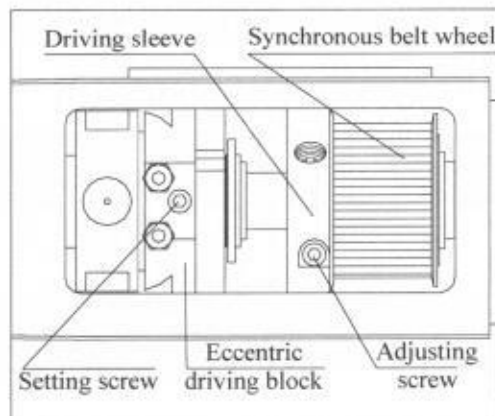

Fig 11
- Loosen the two screws on the eccentric driving block.(Fig 11)
-- If the speed of the hook is not correct, please adjust the two adjusting screws of the driving sleeve that is fixed at the end of the main shaft (Fig 11). As thus, the speed of the hook can be adjusted.